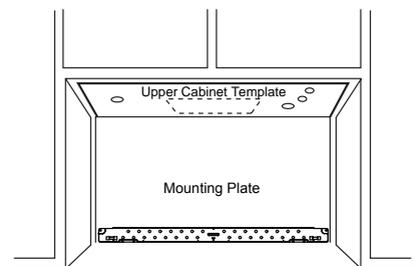

Figure 26
5. Measure the bottom of the upper cabinet frame. Trim edges A, B, and C on the upper cabinet template so that the template will fit on the bottom of the upper cabinet. If upper cabinet has a recessed frame, trim the template so it fits inside the recessed area. Align the centerline of the upper cabinet template with the centerline of the rear wall template, then securely tape or tack the upper cabinet template in place. See Figure 26.